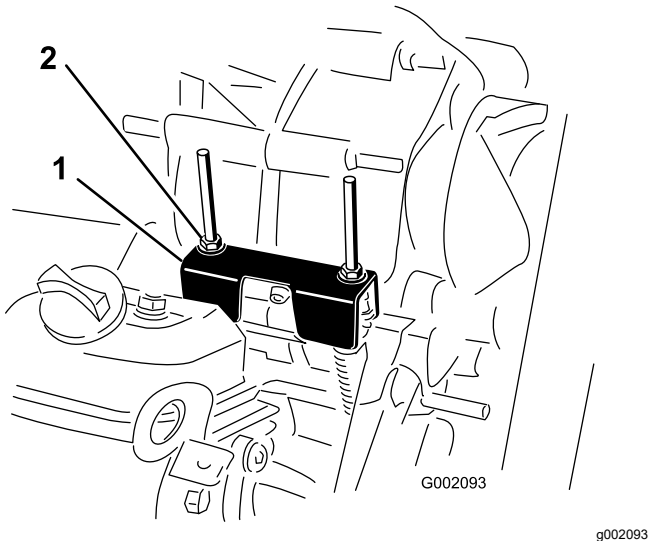

Figure 45
When performing routine maintenance and/or engine diagnostics, the transaxle must be shifted into NEUTRAL (Figure 45). The machine has a NEUTRAL position on the shift lever, which controls the neutral in the transaxle. Perform the following steps to ensure that the neutral shift lever operates the transaxle neutral correctly:
2. Ensure that the neutral bracket is in the NEUTRAL position (level to the cable mounting bracket located below the shift bracket) by turning the driven clutch (Figure 45).
3. Rotate 1 of the locknuts (Figure 45) to achieve a 0.762 to 1.524 mm (0.030 to 0.060 inch) gap between the bottom of the nut/washer and the neutral bracket.